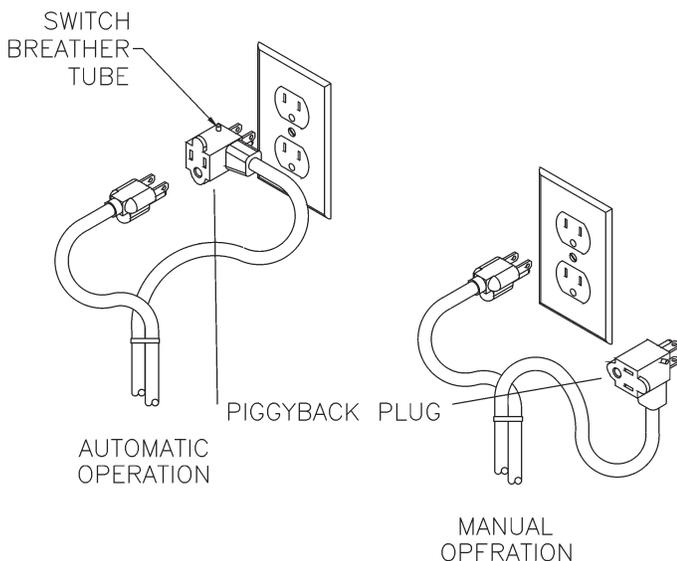

FIG. 1
**AUTOMATIC OPERATION (APCP Models Only):** The water level switch, rated 10 Amps, is activated by pressure against a diaphragm. This is caused by water rising around the switch housing with the pump resting upright on the stabilizing plate. This switch relies upon air to flow through a "breather tube" (See Figure 1). The switch should cause pump plugged into piggy back plug, (See Figure 1), to come on when the water level is approximately 2-3 inches deep. Pump should remain running until the water level is approximately .50-1.50 inches deep. Note: Temperatures near freezing may cause the "ON" level to go as high as 4 inches, and the "OFF" to be as high as 2 inches.
1. Your pump is supplied with a 3-prong electrical plug. The diaphragm switch on APCP models is supplied with a 3-prong piggyback plug/receptacle on the cord. The third prong is to ground the pump to prevent possible electrical shock hazard. Do not remove the third prong from the plugs. For automatic operation, plug pump plug into piggyback receptacle, then plug piggyback plug into properly grounded outlet. For manual operation, plug pump plug directly into properly grounded outlet. These connections are illustrated in Fig. 1.
4. Switch cord contains a small white breather tube which extends out of switch plug (see Fig. 1). Be sure switch cord is not pinched and non-restrictive air flow can occur in breather tube. Do not allow water to enter into breather tube. Non-restricted air flow is required for proper switch operation.